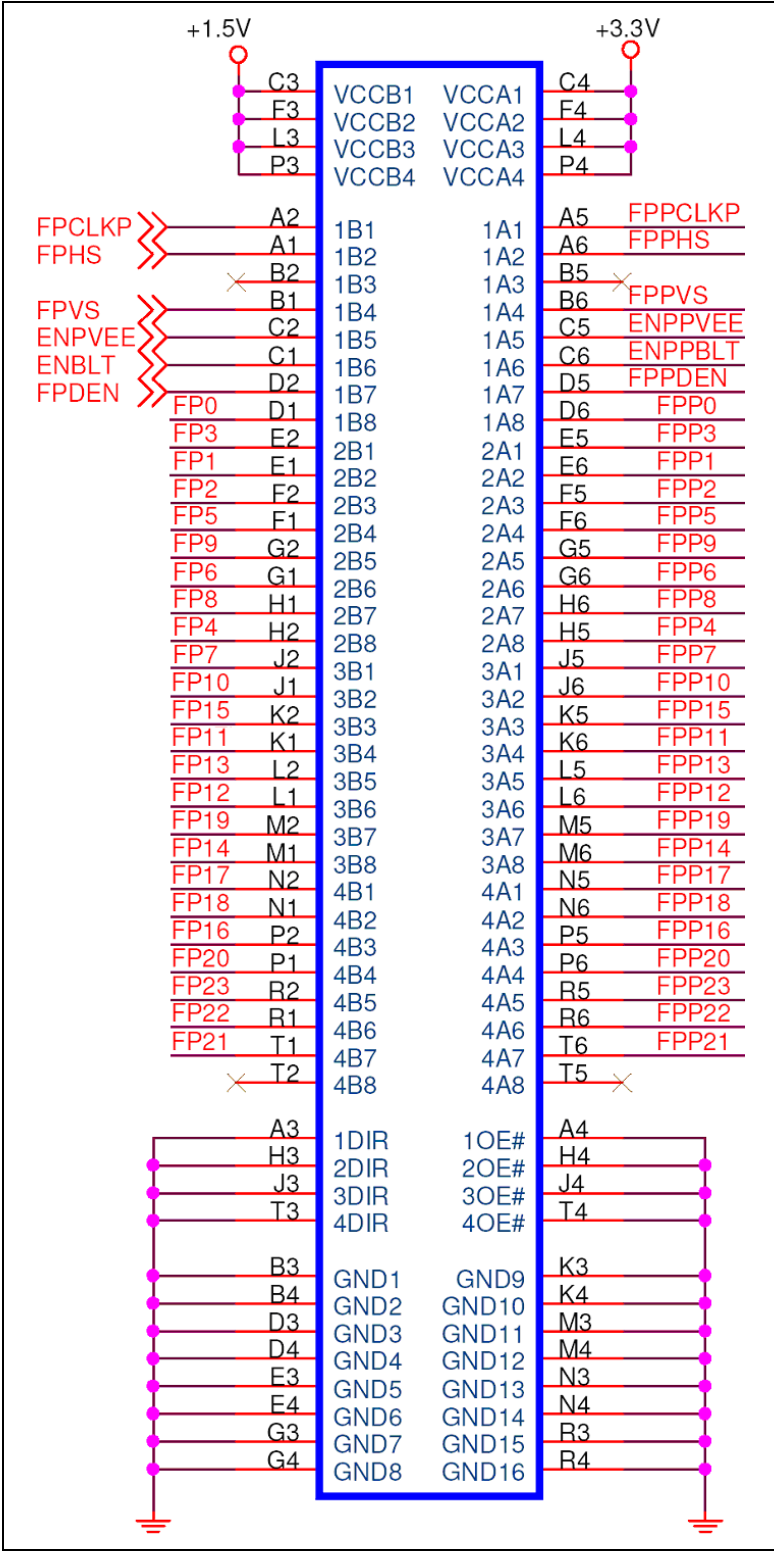

Figure 4-16: PCI Slot Location
- CN Location:** See **Figure 4-16**